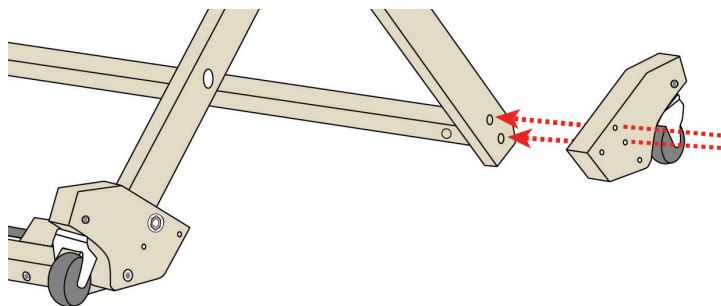

FIGURE 9: ALIGN HOLES
10. Place a stroller block next to the leg, with the wheel at the back of the loom and holes aligned with the leg (Figure 9). You will attach the block through its **top and middle** holes.
25. Place a stroller block next to the leg, with the wheel at the back of the loom and holes aligned with the leg (Figure 9). You will attach the block through its **top and bottom** holes.